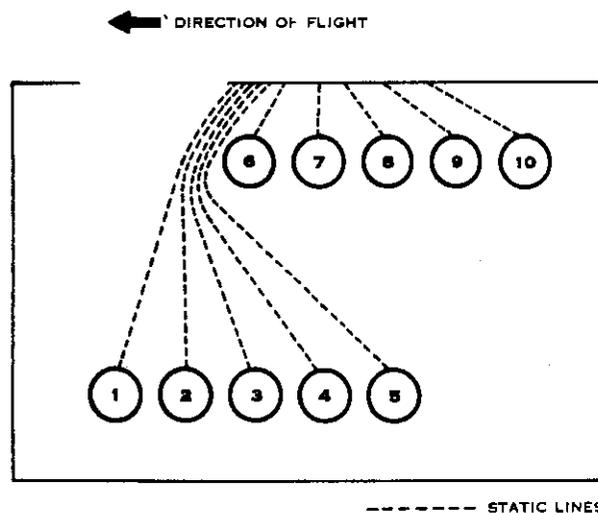

Figure 94. CH-21 seating arrangement and static line routing.
a. Following the final briefing, the jumpmaster gives the command to enplane. The parachutists enter the aircraft through the rear door. To maintain proper balancing of the load, half of the stick sits on the portside and the remainder on the starboard side. The seating arrangement and static line hookup are shown in figure 94.